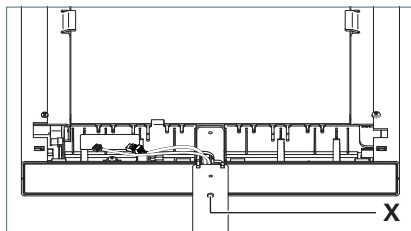

Fig. 11: Adjusting the inclination.
- Lift the luminaire head to align it vertically and tighten the adjusting screw **X** against the support tube counterclockwise by hand, see Fig. 11.